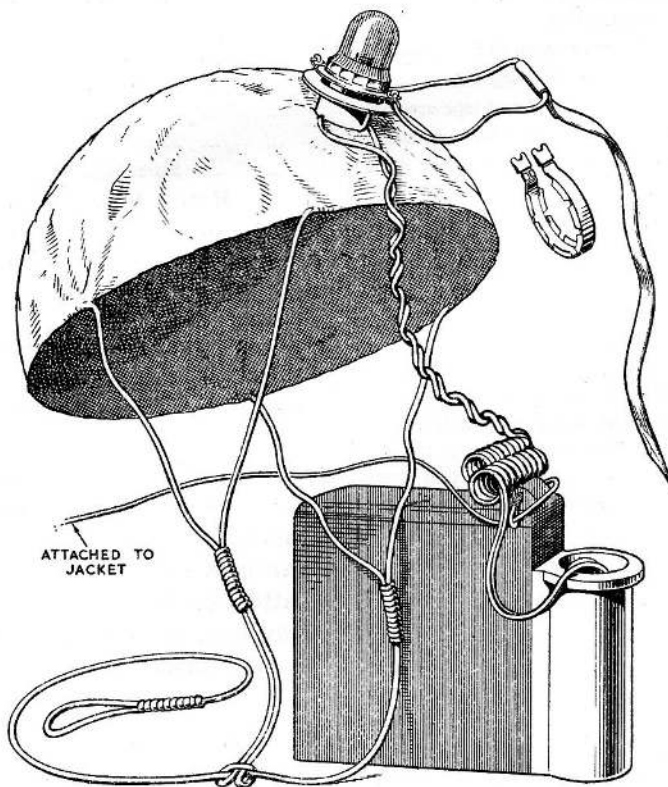

Fig. 1. Skull cap, with lamp and battery
2. The life jacket lamp (*fig. 1*) consists of a battery, a yellow nylon skull cap on which the filament lamp is mounted, and a cable, all stowed inside a water-tight plastic case. The skull cap and the cable are stowed in a compartment on the side of the battery case, with the lamp housing protruding.